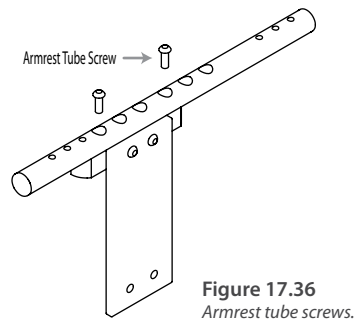

Figure 17.36
- 3 Remove the arm rest tube screws (See Figure 17.36)